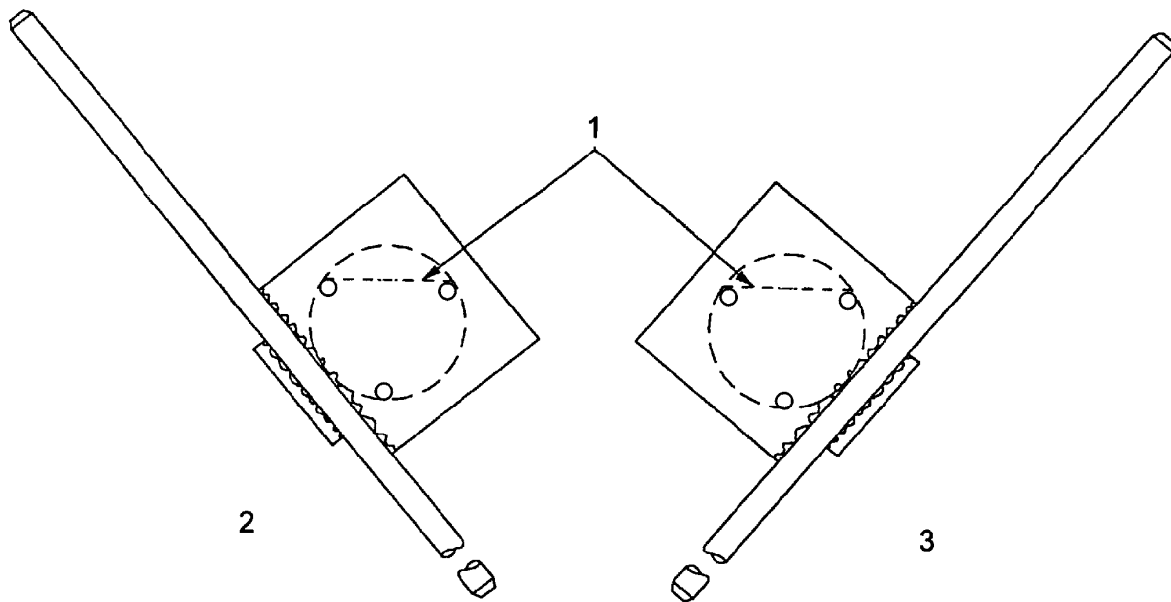

Fig. 14.36. Alignment Tool Bolted to Pivot Shaft
2. Install alignment tool, refer SERVICE/SPECIAL TOOL in this Section, to pivot shaft with 3/4 in. NF bolts. Position of pivot notch in relation to tool handle must be as shown in Fig. 14.36 so tool handle will clear sprocket drive.